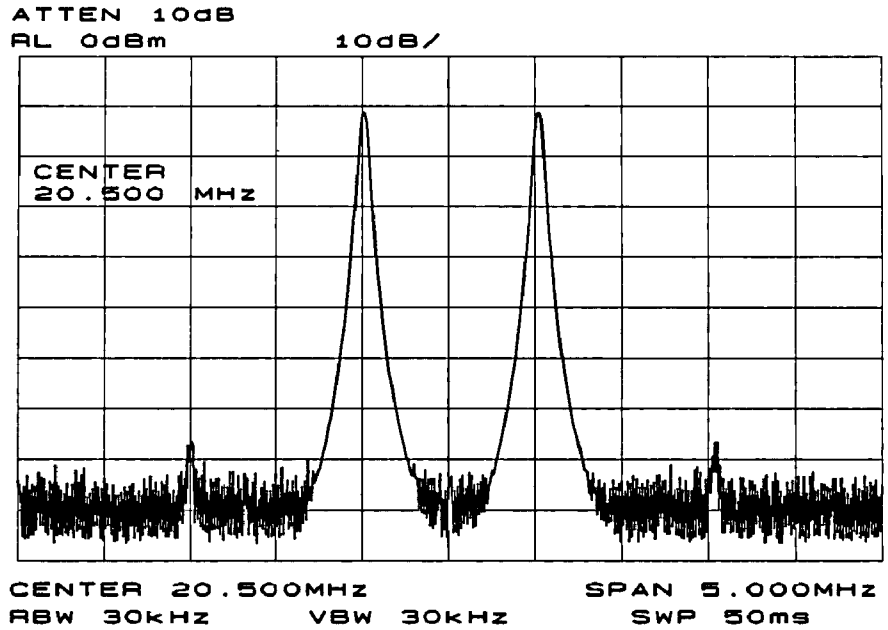

Figure 3-5. Signals Centered on Display
2. Tune both signals onto the display by setting the center frequency to 20 MHz. Next, reduce the frequency span to 5 MHz for a span wide enough to include the distortion products on the display. For frequency separations other than the ones in this example, choose a span greater than three times the separation of the source signals. Press **FREQUENCY** and, using the knob, center the two signals on the display, as in Figure 3-5. If necessary, to be sure that the distortion products are resolved, reduce the resolution bandwidth until the distortion products are visible; press **BW**, then use the **STEP** key to reduce the resolution bandwidth. You may wish to reduce the video bandwidth as well. To ensure that the input signals are equal in amplitude, press **PEAK SEARCH** and the keys **MARKER DELTA** and **NEXT PEAK**. Adjust one of the source signals until the difference in amplitude reads zero.